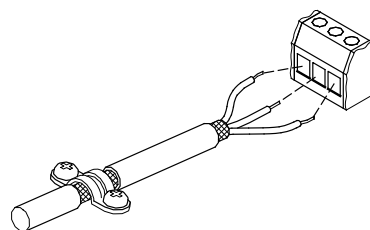

Fig. 10 Stripped cable with screen and wire connection
- Connect the screens of the cables to frame at both ends with good frame connection. The screens must be as close as possible to the terminals. See fig. 10.